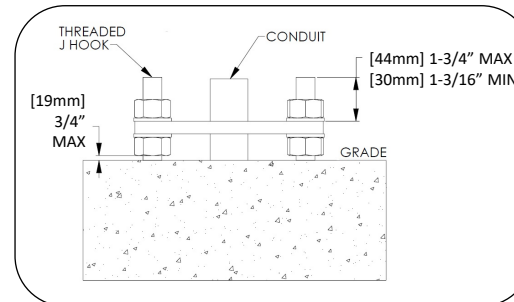

Fig. 3 – Anchor install detail
2. Install anchor hooks, hex nuts, washers and wooden template as shown in Fig 3.